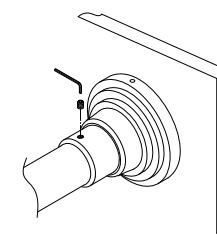

Fig. 7
Step 7. Attach shower rod into the mounting unit and screw the shower rod in securely (Fig 7).